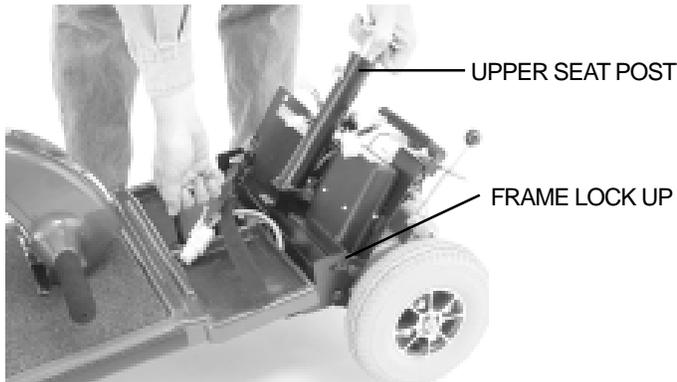

FIGURE 17. FRAME HANDLE
3. With one hand on the seat pedestal and one hand on the frame handle, slightly lift the front section and slide the front and rear sections apart. See figures 17 and 18.
4. Using the frame handle, lift the front section and align the lower slots on the rear of the front section with the corresponding lower pegs on the front of the rear section. Pivot the rear section forward until it locks in place with a “click.” See figure 17.